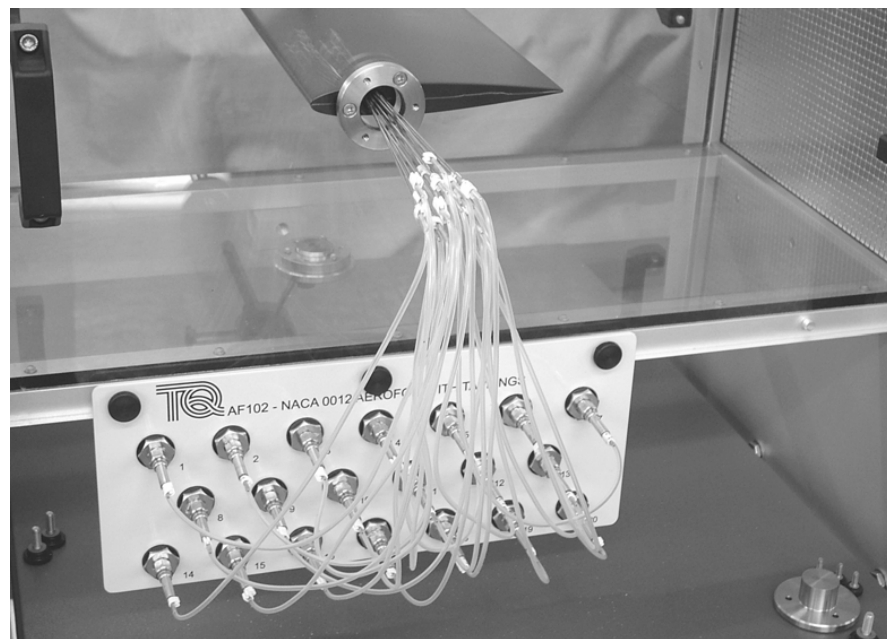

Figure 7 Fit the Manifold Plate and Connect the Pipes
9. Use the long screws (supplied) to fit the manifold plate to the bottom of the Working Section and Connect the tapping pipes to the front sockets (see Figure 7). Each pipe has a number to make this easier.